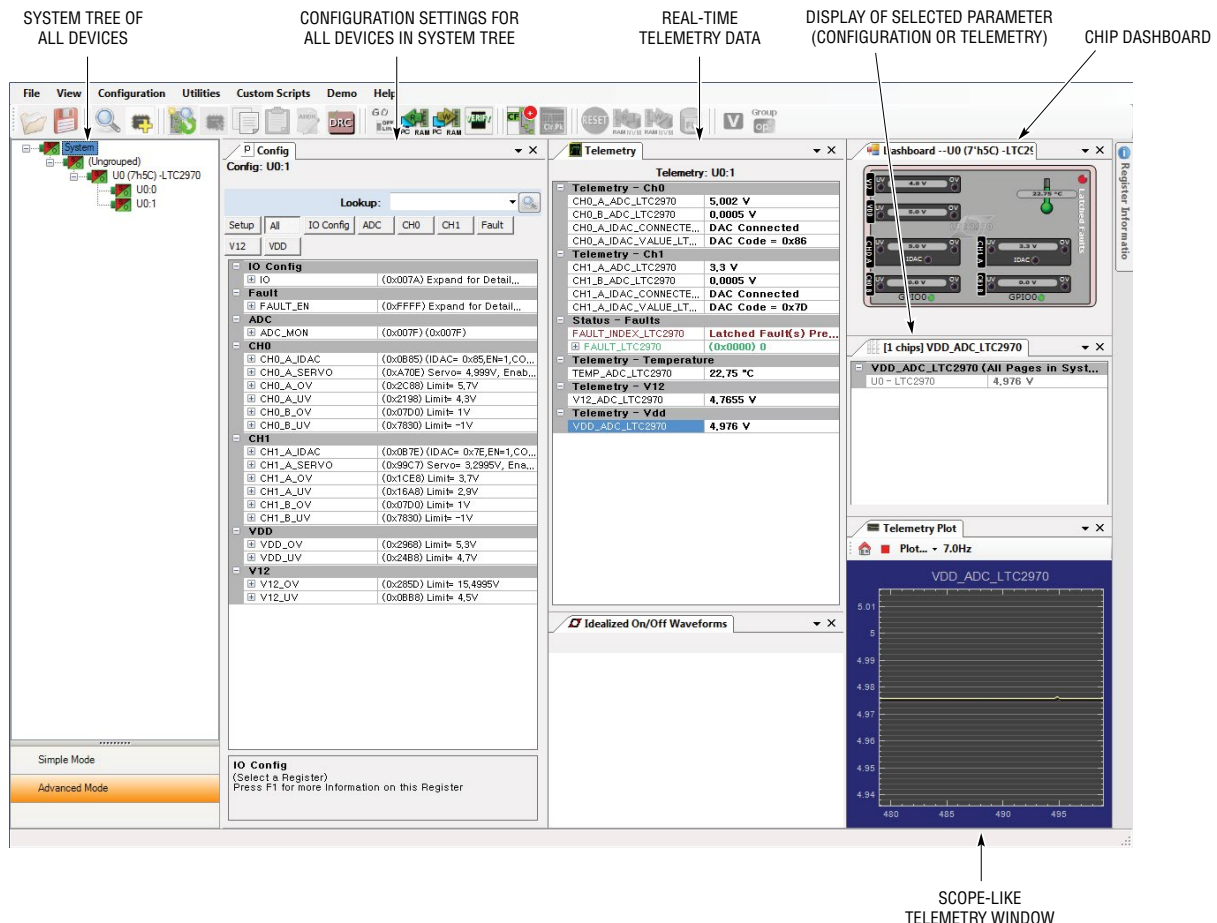

Figure 1. Screenshot of LTpowerPlay GUI
6. Connect the USB cable from the host computer to the DC590. Launch LTpowerPlay. The software automatically identifies the DC980A and builds a system tree for the LTC2970. The GUI should appear as that shown in Figure 1.